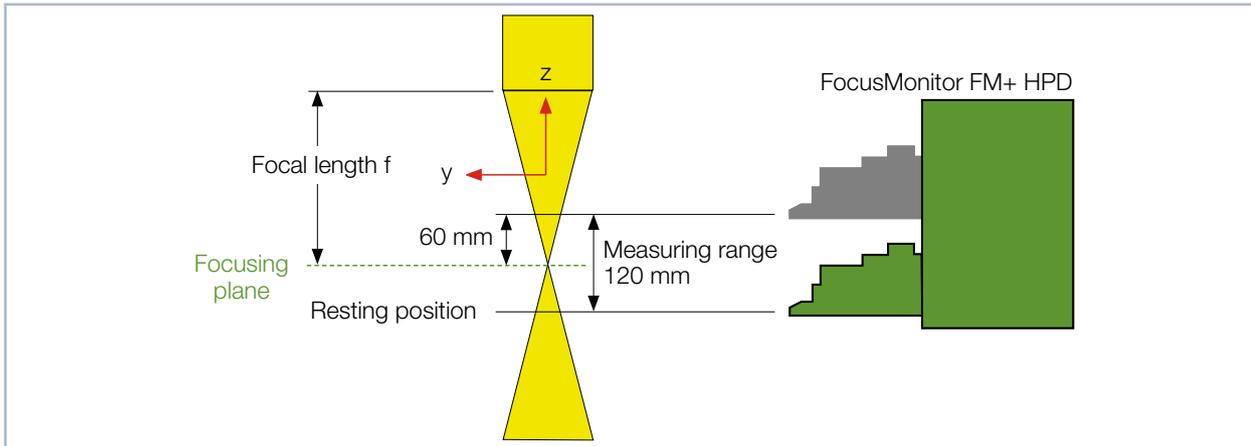

Fig. 8.6: Measuring range of FocusMonitor FM+ HPD
For the FocusMonitor FM+ HPD, the beam must enter vertically to the x-y-plane (see Fig. 8.6 on page 18).
The focus plane should be centered to the measuring range of the FocusMonitor FM+ HPD (see Fig. 8.6 on page 18).
- The horizontal carrier will move to the position 60 mm above its resting position (see Fig. 8.6 on page 18) without a rotated FS3.